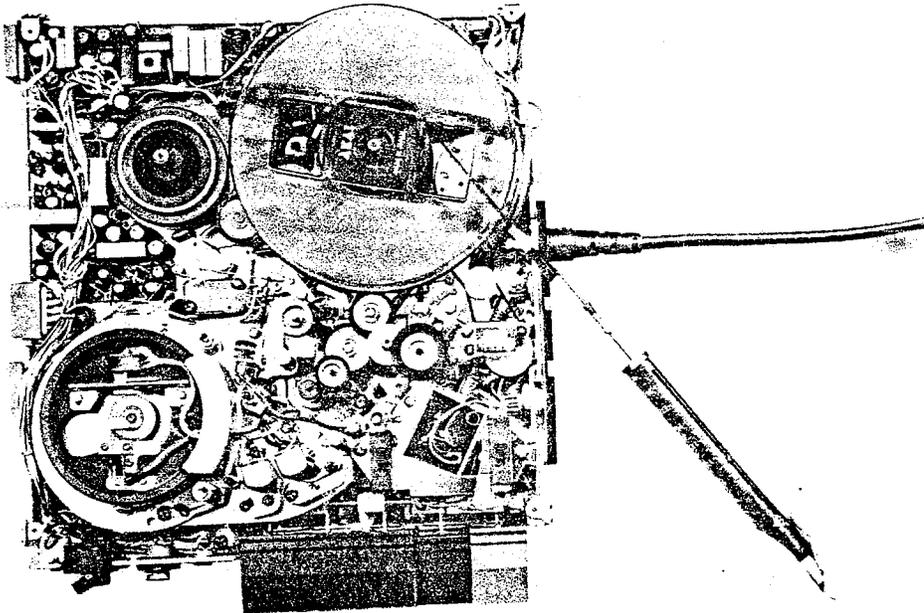

Fig. 6 Take up Torque Measurement
- (a) At stop mode, set Take-Up Pulley Arm Stopper Holding Screw so that the space between Take-up Pulley and Take-Up Drum (reel drum) is about 1 mm. (Refer to Fig. 1 and Fig. 6).